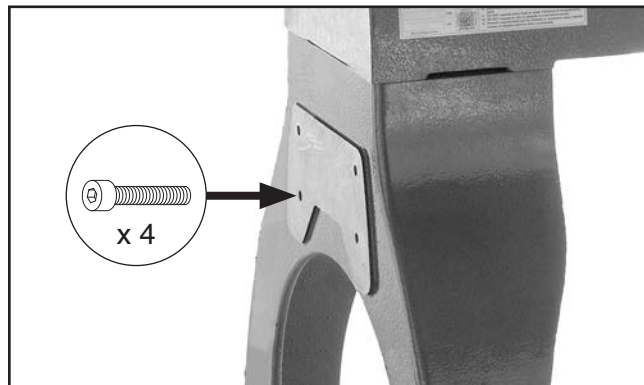

Figure 30. Outboard bed extension stand mounting holes.
23. Hand thread (4) M10-1.5 x 30 cap screws halfway in bed extension mounting holes on left stand leg (see **Figure 30**).